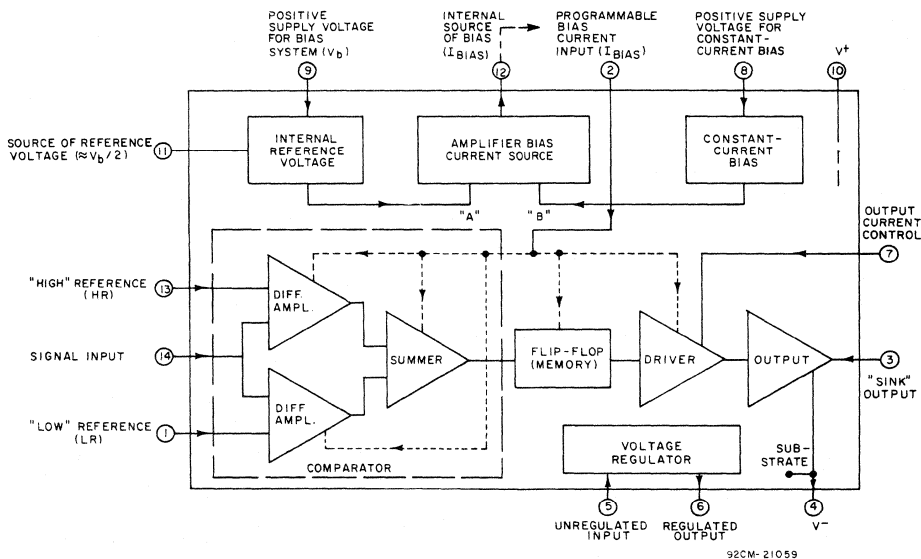

Fig. 1—Block diagram of CA3099E programmable comparator.
controlled is less than 30 mA. The CA3099E contains the following six (6) major circuit-function features (Figure 1):